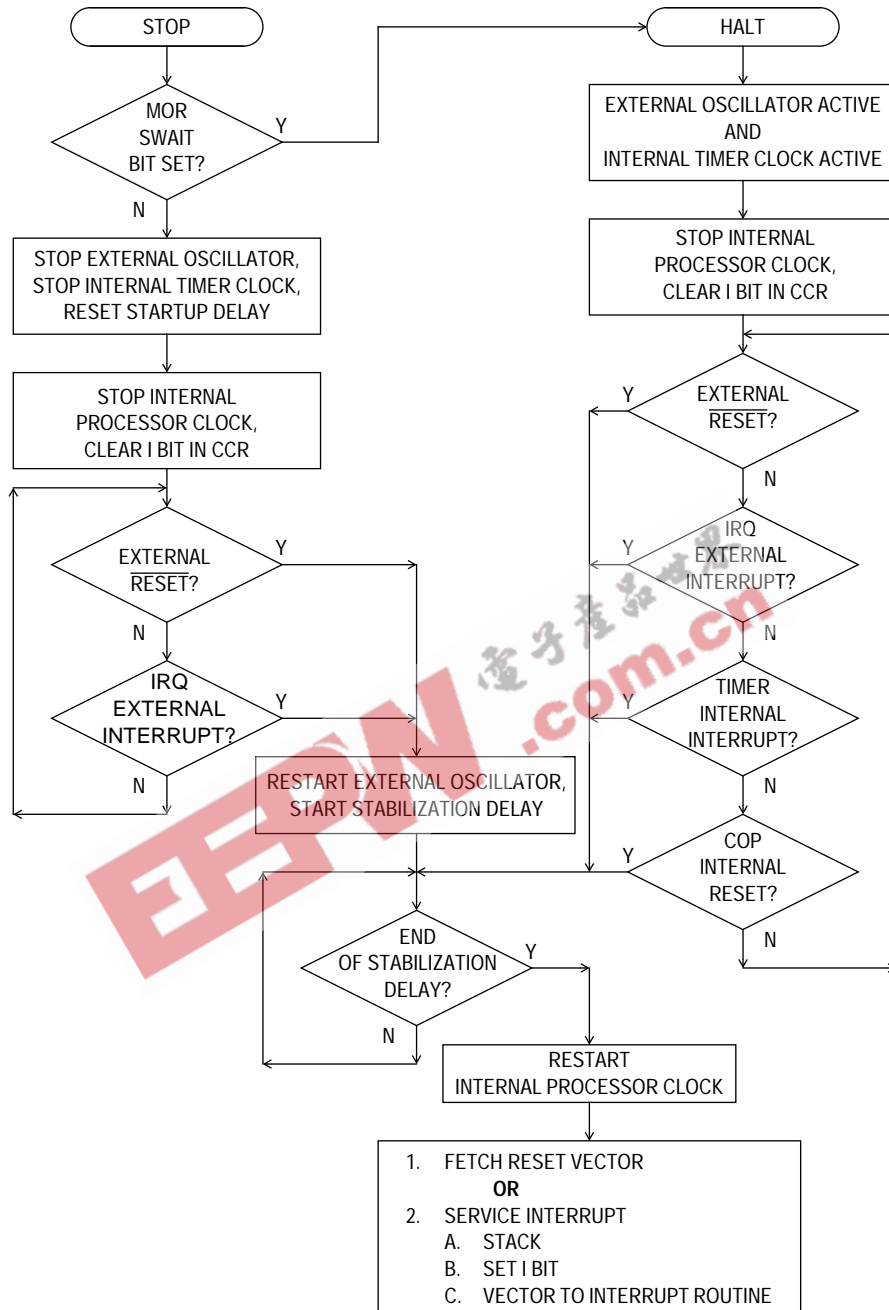

Figure 25. STOP/HALT Flowcharts
**Figure 25** shows the sequence of events caused by the STOP/HALT instruction.